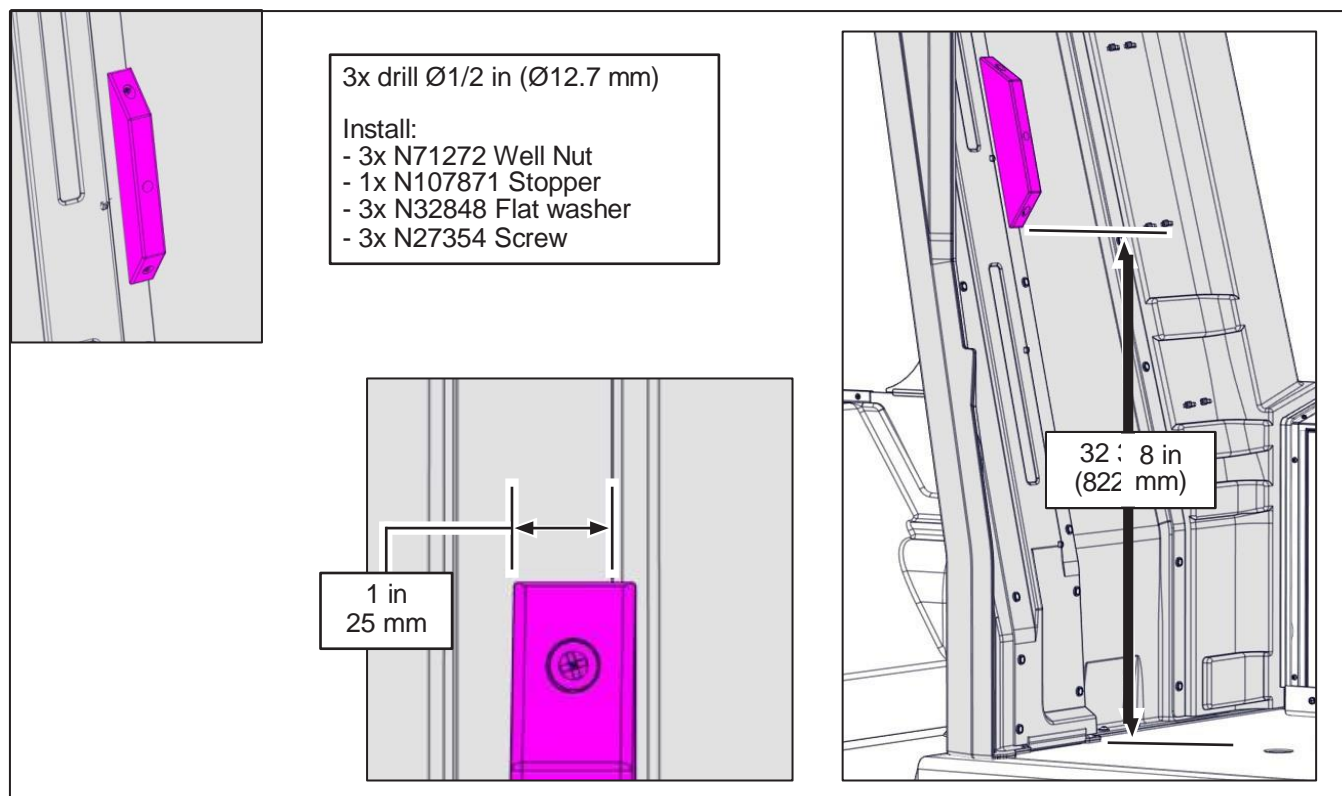

Figure 1 - Installation of the Seat Stopper on the Driver Partition
- 1.4. Position the new N107871 stopper as shown in Figure 1.